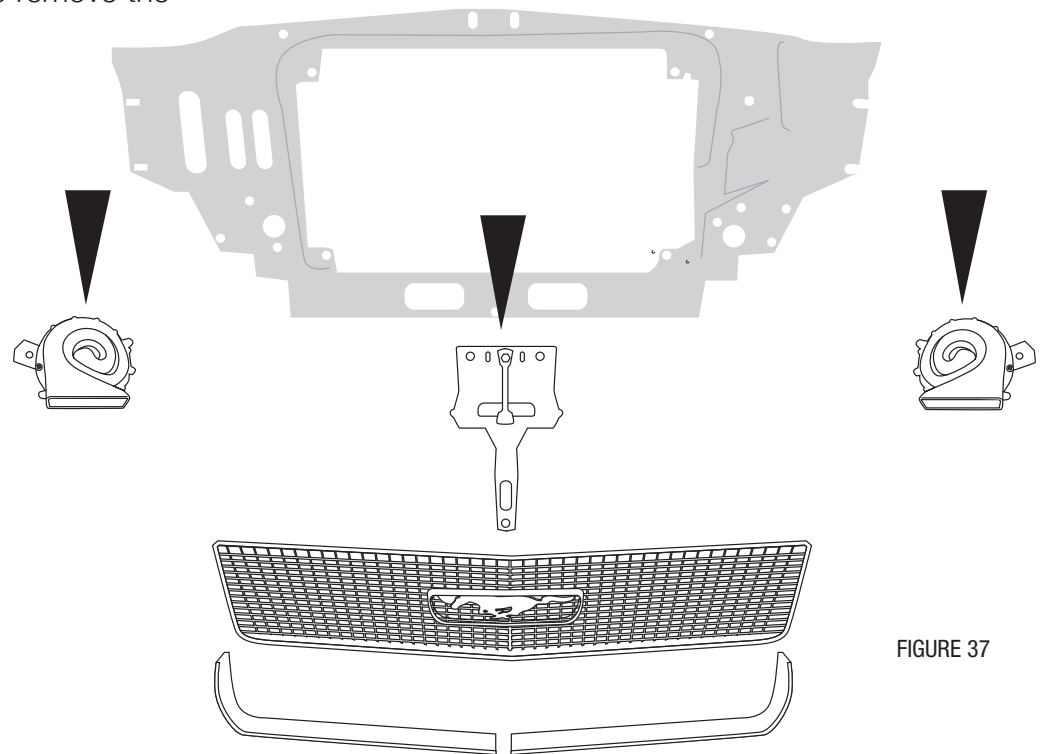

FIGURE 37
**STEP TWO:** During the next steps you'll be installing the condenser, drier, and routing the pressure switch wire and the A/C lines. Since much of this is installed in the OEM location for the condenser, you'll need to remove the center grill section, horn(s), and latch support assembly (see figure 37). Be sure to retain all the mounting screws – you'll reinstall these pieces in the exact reverse order with the OEM screws.